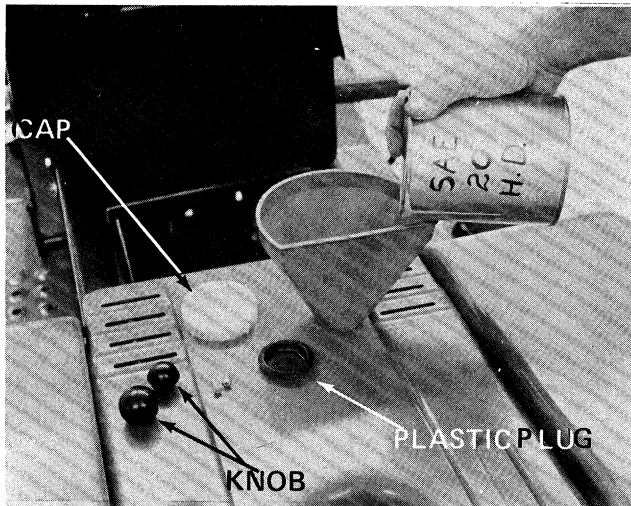

**FIGURE 12**
The transmission fluid level should be checked prior to initial use. The level should not be above the COLD mark which is about 1/4" from the bottom of the reservoir/expansion tank. See figure 12.
3. Check the oil level in the reservoir/expansion tank. See figure 12.